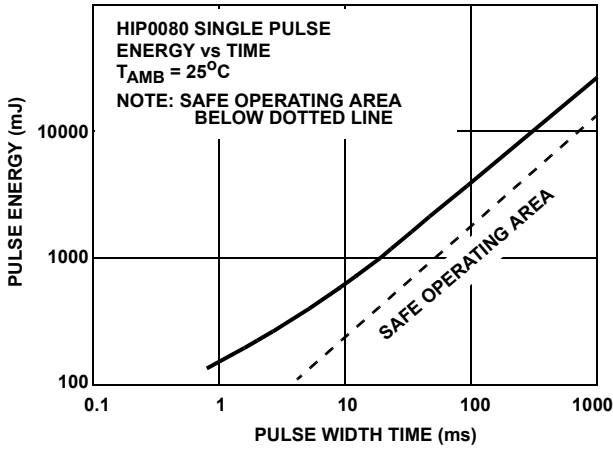

FIGURE 4. SINGLE PULSE ENERGY TEST SHOWING THE FAILURE BOUNDARY FOR EACH HIP0080 OUTPUT STRESSED TO POINT OF FAILURE
4. Refer to Figures 4 and 5 Single Pulse Output Clamp Energy vs. Time Capability of the HIP0080 and HIP0081. The safe margin for single pulse energy operation is below the dotted line shown in Figures 4 and 5.
Figures 4 and 5 define the Single Pulse Energy ratings for the HIP0080 and HIP0081. Refer to Application Note AN9416 for further information on Single Pulse Energy ratings for inductive load operation and Dissipation capability for the 15 pin Power SIP Package. The Device Under Test conducts when the zener over voltage clamp turns on the output. While drain-to-source voltage, VDS and drain current, ID are monitored, the current drive pulse width, tON in seconds is varied to determine the Single Pulse Energy capability. The energy in Joules is calculated from the following equation: